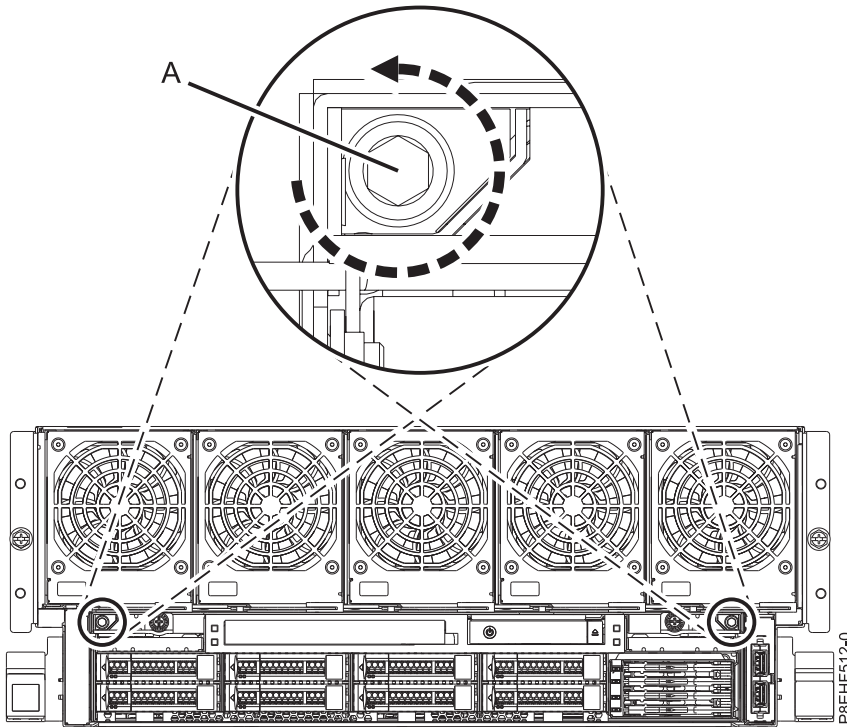

Figure 1. Loosening the shipping screws
- a. Loosen, but do not remove the recessed shipping screws (A) in the RAID assembly by using a 4 mm Allen wrench, as shown in Figure 1.